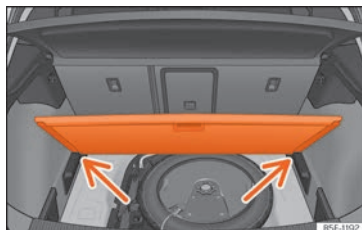

Fig. 130 Variable luggage compartment floor: inclined position.
- Rest the floor on its housings »» Fig. 130 (arrows).